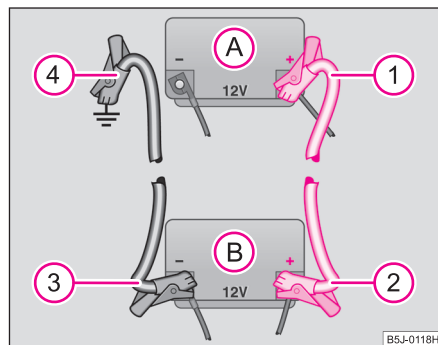

Fig. 162 Jump-starting using the battery from another vehicle: A - flat vehicle battery, B - battery providing current
- Attach one end (1) to the positive terminal ⇒ fig. 162 of the discharged battery (A).
- Attach the other end (2) to the positive terminal of the battery supplying the power (B).